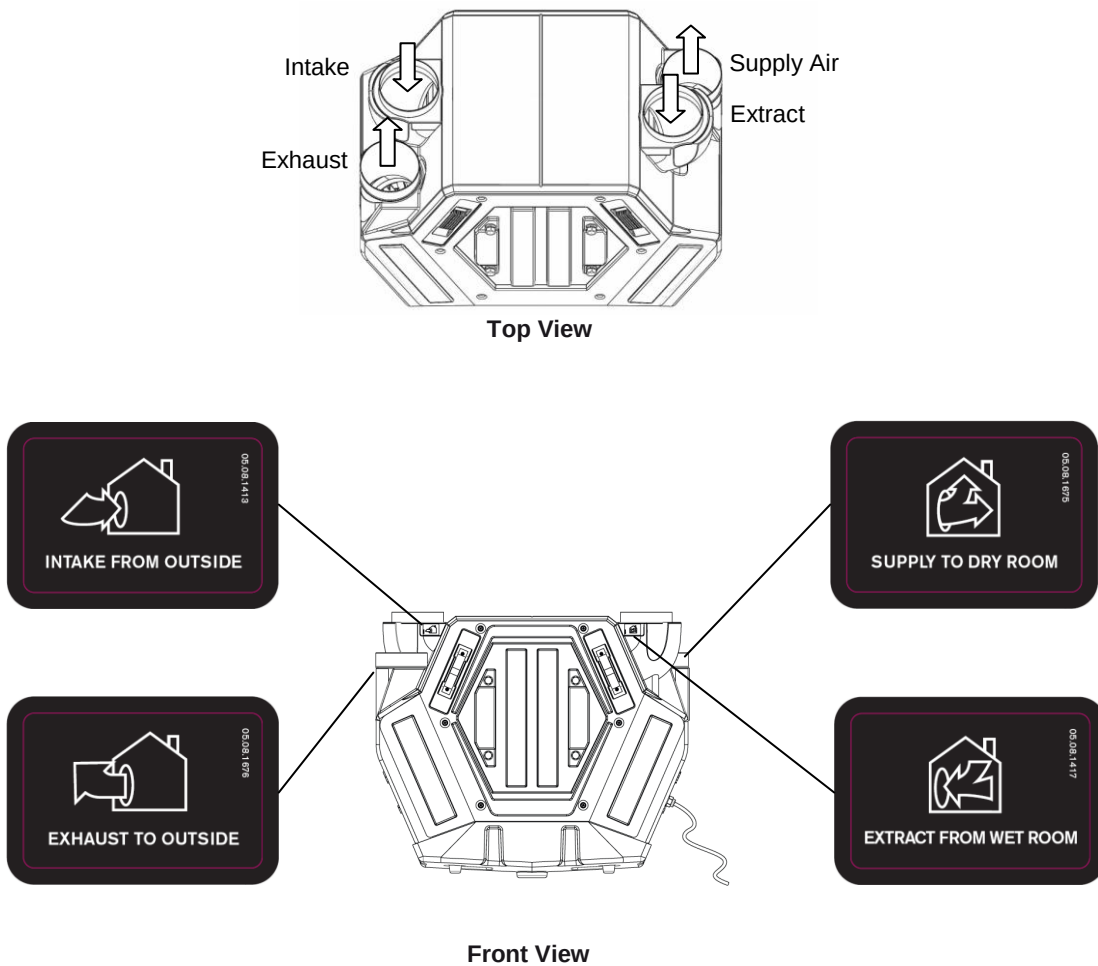

Figure 1
- 2.2.4 The unit can be configured for **right and left hand** installation (*See Figures 1 to 3 overleaf*).
2.2.6 Right Hand Configuration (factory setting) *(See Figure 1)*